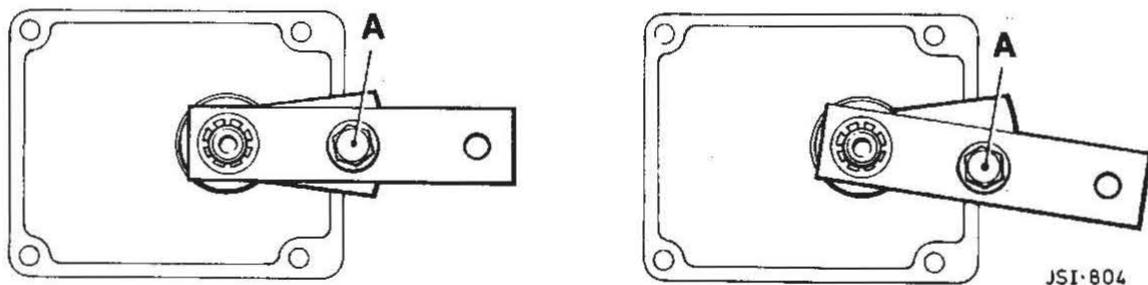

FIG 2
- c) Slacken the nut (A Fig 2) on the sensor unit and adjust the arm as shown (A Fig 2). This will cause the system to activate at the lowest load condition possible within the adjustable range.
- d) Tighten the nut (A Fig 2). Reconnect the sensor link arm to the wishbone.